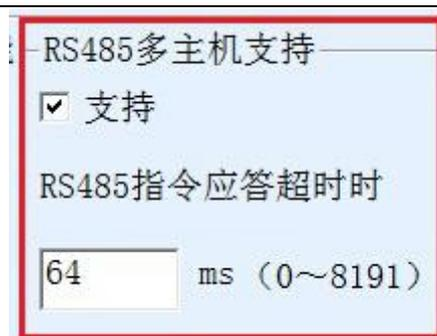
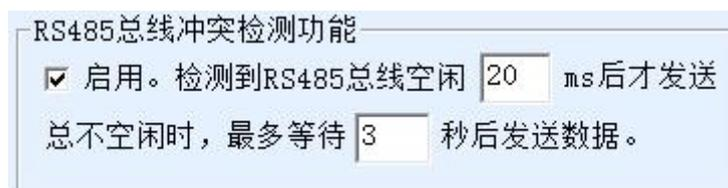

Figure 41 RS485 Multi-master support
Figure 42 RS485 Conflict prevention idle time
1. Figure 42 shows RS485 Bus Collision Prevention time. Generally, you can set it to twice of Packet Interval at the lower right corner of the parameter configuration interface, but the minimum value cannot be less than 20.
2. Figure 41 shows "RS485 instruction reply timeout time", which is generally determined by the length of the back and forth reply instruction. If the sending instruction is N bytes and the
At this time, it should be noted that "RS485 bus anti-collision time" shown in Figure 42 and "RS485 instruction reply timeout time" shown in Figure 41 should be removed. Otherwise, the forwarding function cannot be implemented.